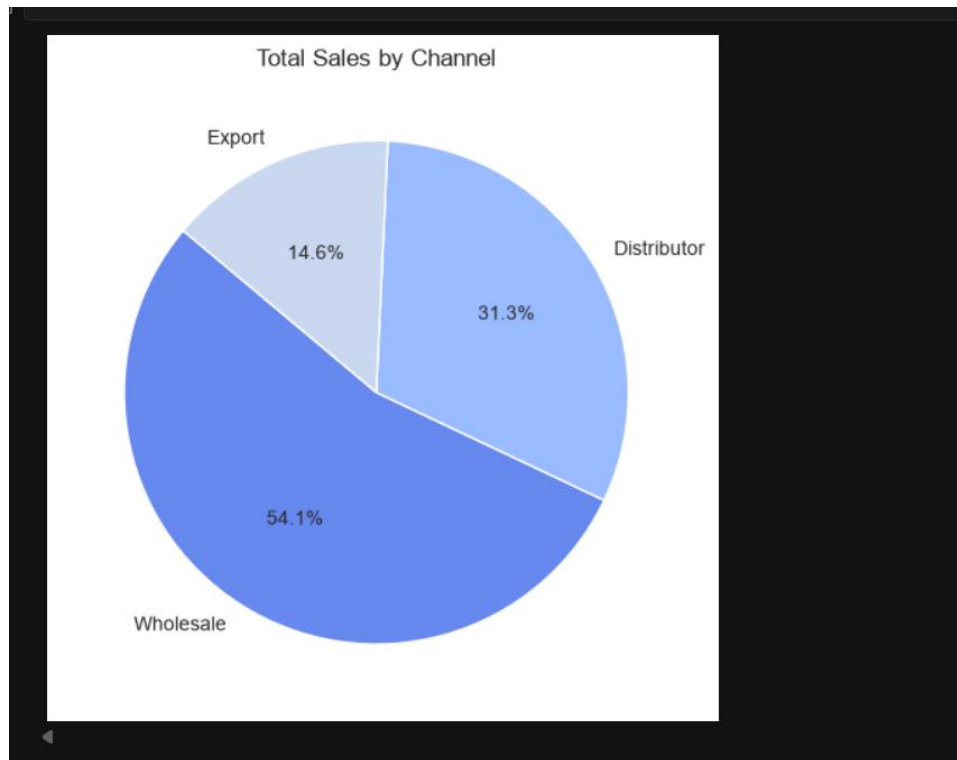

Figure 4.6 — Total sales share by channel.
- **Channel Distribution:** A donut chart showing Wholesale (₹668.2M, 54.06%), Distributor (₹387.14M, 31.32%), and Export (₹180.63M, 14.61%) — directly mirroring Figure 4.6 from the notebook.